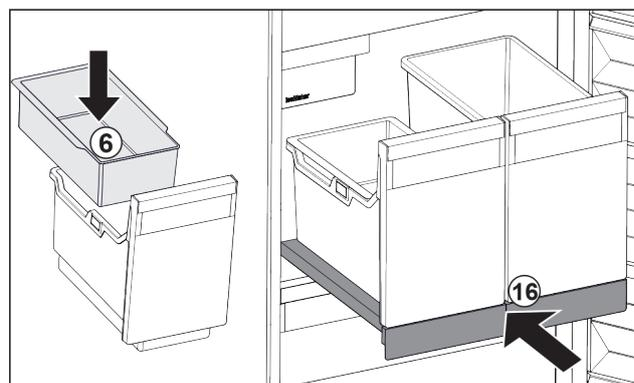

Fig. 32
- ▶ Insert hang-on tray Fig. 32 (6) for ice cubes.
- ▶ Slide in the pull-out board with (IceTower) container. Fig. 32 (16)